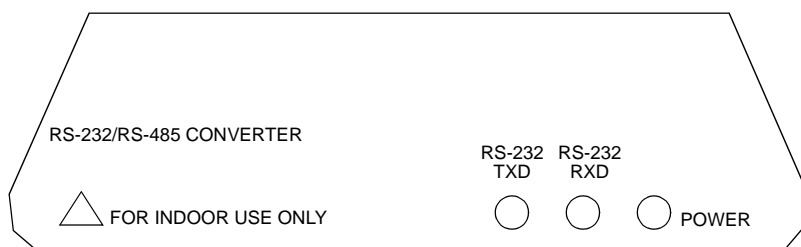

Figure 4. Converter Box—Front View
- The front of the converter box has three light-emitting diodes (LEDs) (see Figure 4):